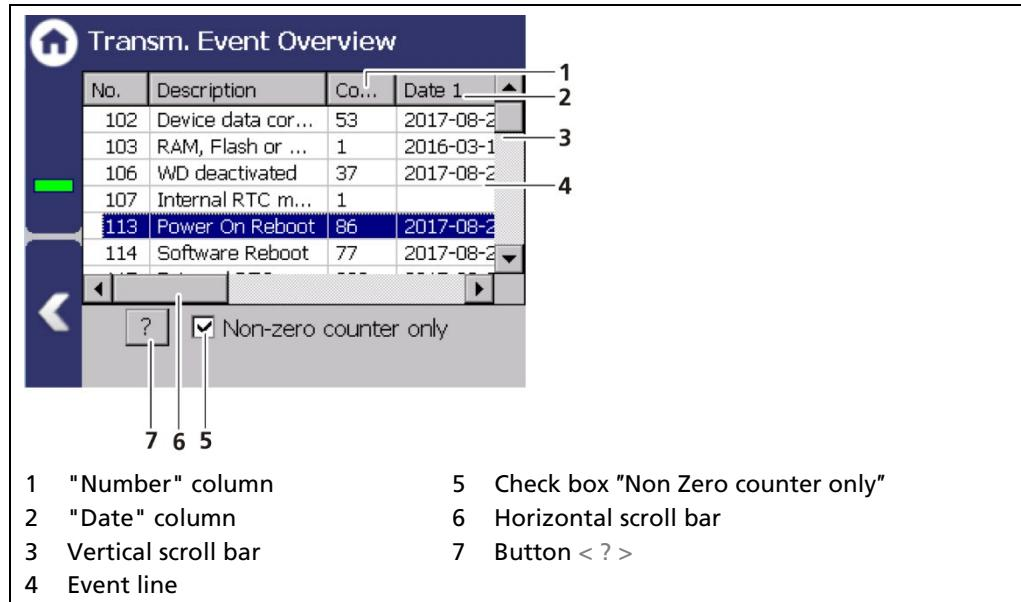

Fig. 137 Event Overview (transmitter)
All events that can be logged are chronologically presented in tabular form in the window "Event overview". Activate the check box "Non-zero Counter only" (Fig. 137, item 5) in order to display events that have occurred.
1. Click on a line in the list (Fig. 137, item 4).
2. Click on < ? > (Fig. 137, item 7).
3. Close the event description (Fig. 137, item 7) with the button < Close >.
4. Slide the bar of the horizontal scroll bar (Fig. 137, item 6) to the right to see at what times (date, time) the event occurred.